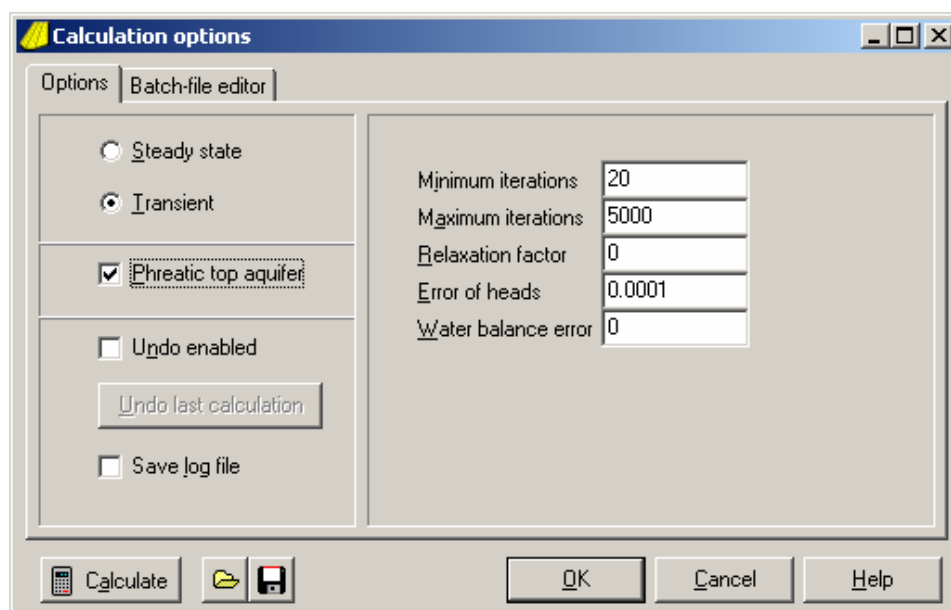

Figure 34: Calculate window (2)
- In the Main Menu click on "Calculate", then click on the Options-tab. The "Phreatic top aquifer" option is now accessible. Place a check mark at this option (Figure 34), then click on the OK-button. Just leave the other options and fields untouched.